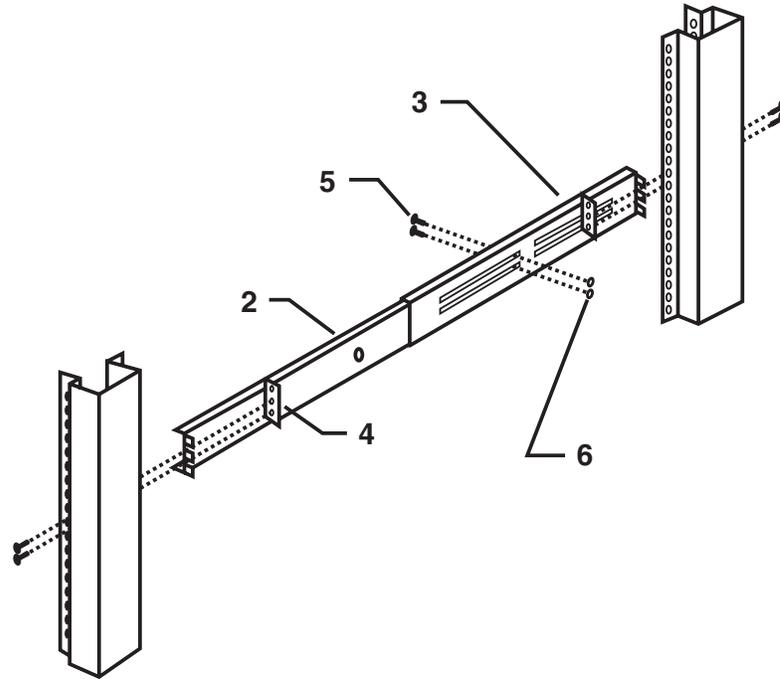

Figure 3-14. Installing the Rear Brackets on the Slides and Attaching the Slides to the Corner Posts.
**STEP 1:** Install the rear brackets on the slides (see Figure 3-14).
**STEP 2:** Attach the slides to the cabinet corner post (see Figure 3-14).